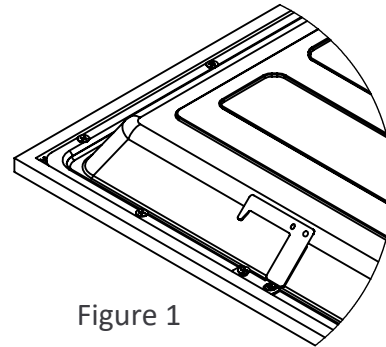

Figure 1
2. Unscrew (4) T-grid hooks, **Figure 1**, and discard each hook including the (2) screws from each.